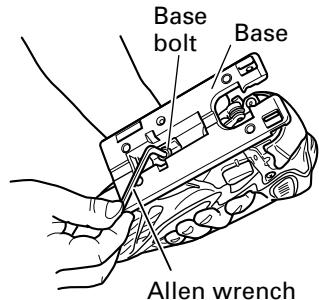
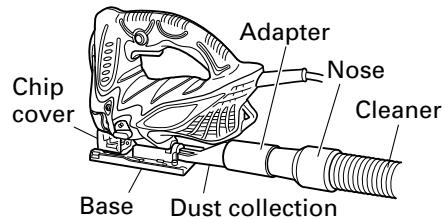

Fig. 10
Fig. 18
- (1) Loosen the base bolt allen wrench attached on base. (Fig. 10)
NOTE: To ensure accurate cutting when using the Guide (Fig. 10), always set the orbital position to "0".
- (1) Loosen the base bolt by allen wrench attached on base and move the base fully forward. (Fig. 10, 11)
- (3) Tighten the M5 bolt again. (Fig. 10)
- (4) Set the orbital position to "0".
- (1) Remove the allen wrench from the base.
- (2) Move the base fully forward. (Fig. 10, 11)
- (3) Attach the chip cover.
- (4) Connect the dust collection adapter with adapter. (Fig. 18)
- (5) Connect the adapter with the nose of cleaner. (Fig. 18)